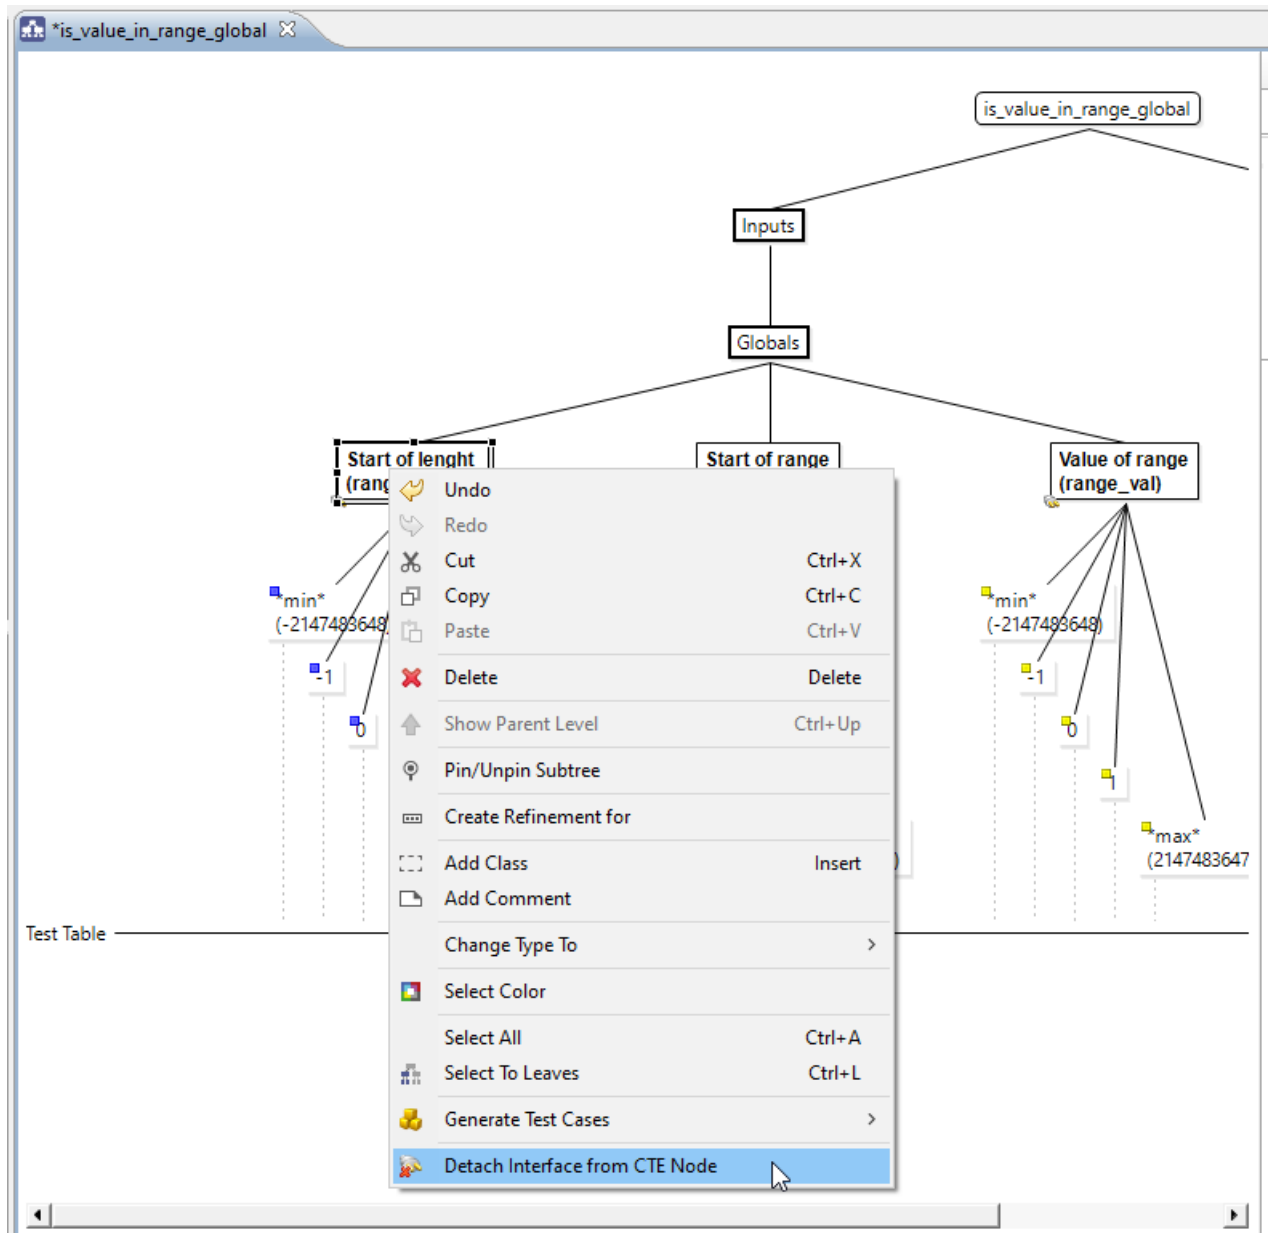

Figure 6.188: Detach the interface from an CTE note
- Detach the interface from its classification node in the context menu of the respective node in the CTE by clicking the menu entry “Detach Interface from CTE Node” (see figure 6.188).